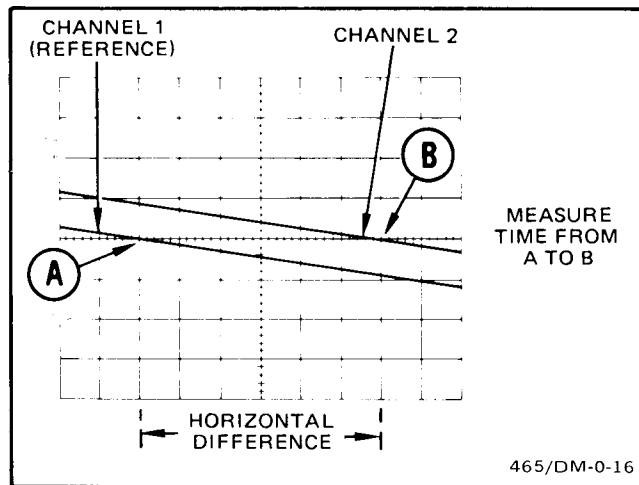
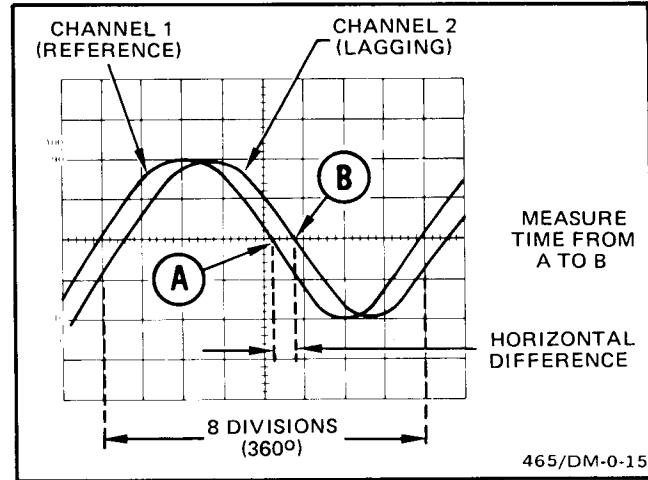

Figure 41. High-resolution phase difference.
Figure 40. Phase difference.
More accurate phase measurements can be made by using the X10 MAG function to increase the sweep rate without changing the TIME/DIV VAR control setting (see Figure 41).
EXAMPLE: If the sweep rate were increased 10 times with the magnifier (X10 MAG push button in), the magnified horizontal graticule calibration would be $45^\circ/\text{div}$ divided by 10 (or $4.5^\circ/\text{div}$). Figure 41 shows the same signals illustrated in Figure 40, but magnifying the displays results in a horizontal difference of 5.8 divisions between the two signals. The phase difference is:
7. Set the TIME/DIV switch to display at least one full cycle of the waveform over the 10 graticule divisions. Position the display and adjust the TIME/DIV VAR control to place one reference signal cycle in exactly 8 divisions at the 50% rise-time points (see Figure 40).
EXAMPLE: The horizontal difference is 0.6 division with a graticule calibration of $45^\circ/\text{div}$ as shown in Figure 40.